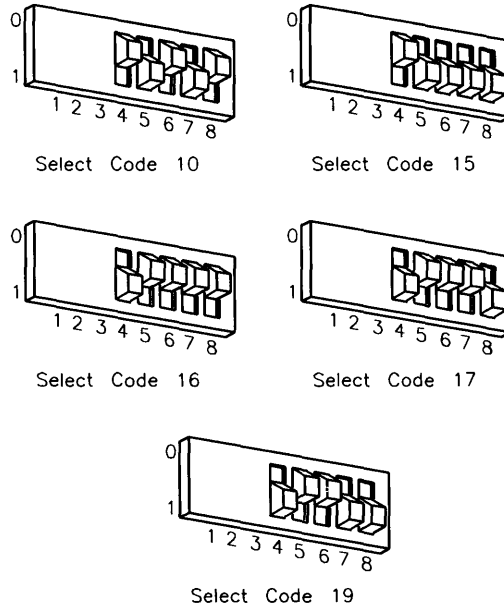

Figure 5-30.
- b. Set these switches to one of the five select codes given in Figure 5-30, unless you have used them elsewhere (check the Select Code Record on the Chapter 5, "Interface Cards" tab to see which ones you have used). Refer to the installation note that came with the interface if you need additional switch settings.